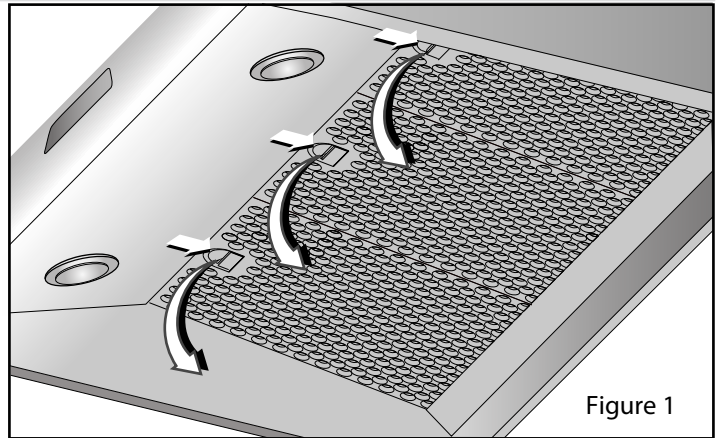

Figure 1
- Push each handle towards the back and pull downwards. Figure 1